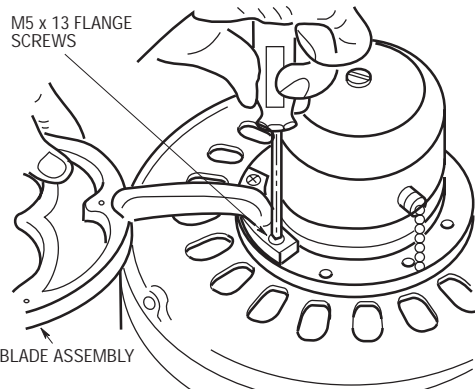

Figure 3
- 8. Attach blade assembly to motor hub using two M5 x 13 flange screw preassembled in flange. Make sure the screws are tightened securely (Figure 3). Repeat this procedure for other four blade assemblies.